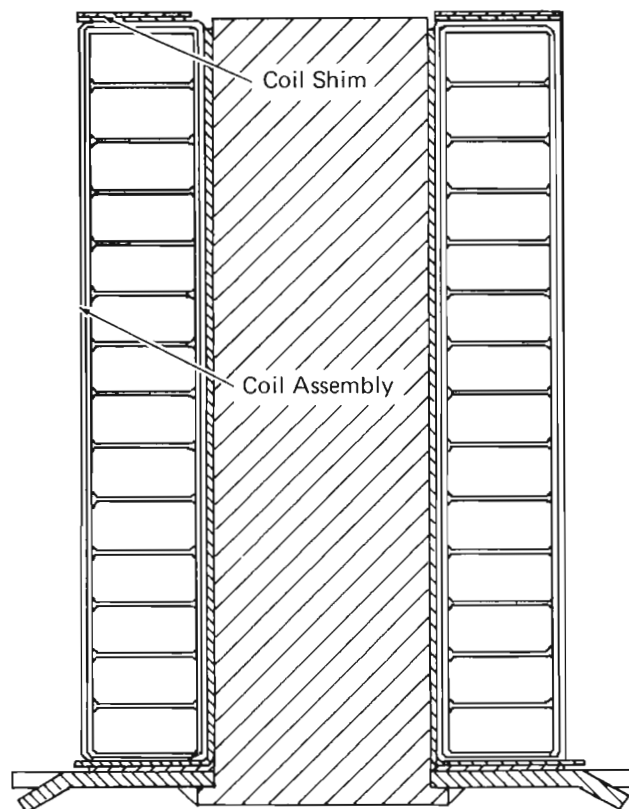

Fig. 22 - Interpole And Coil Assembly 22360
3. On the end of the interpole coil, opposite from the leads, observe either the number taped to the end of the coil or the vertical paint marks (paint marks are on older models). This number or vertical paint marks indicate the number of 0.584 mm (.0230") metal shims required with the interpole coil. These shims are required to maintain a tight coil. Add only the amount specified, making certain that all shims are aligned centrally on the coil and do not overlap onto pole piece. Refer to Fig. 22.